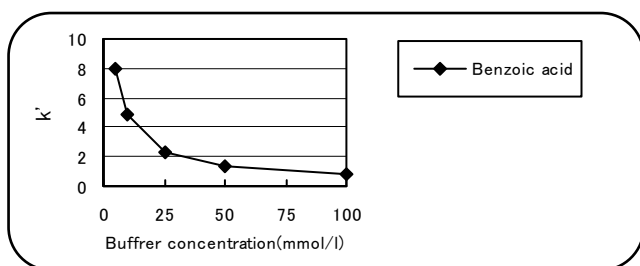

Fig.5 The effect of salt concentration on retention
- High salt concentration inhibits ion exchange and decreases retention. (Fig.5)